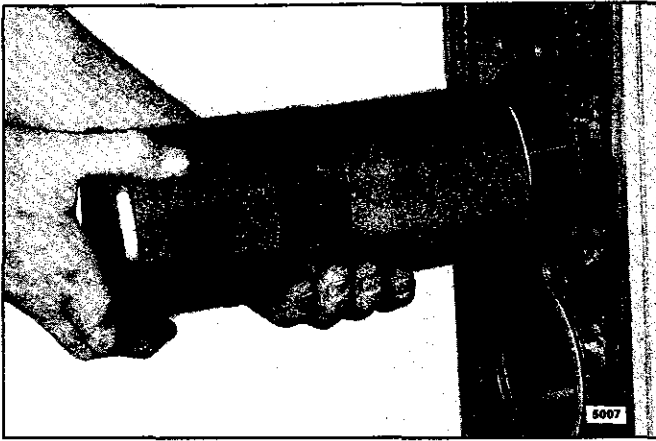

Fig. 10 – Installing Piston, Rod and Liner Assembly in Cylinder Block
6. Position the piston, rod and liner assembly in line with the block bore (Fig. 10) so that the identification number on the rod is facing the outer edge of the block (V-type engine) or the engine serial number side (In-line engine). Also, align the matchmarks on the liner and the block. Then, slide the entire assembly into the block bore being careful not to damage the seal rings.